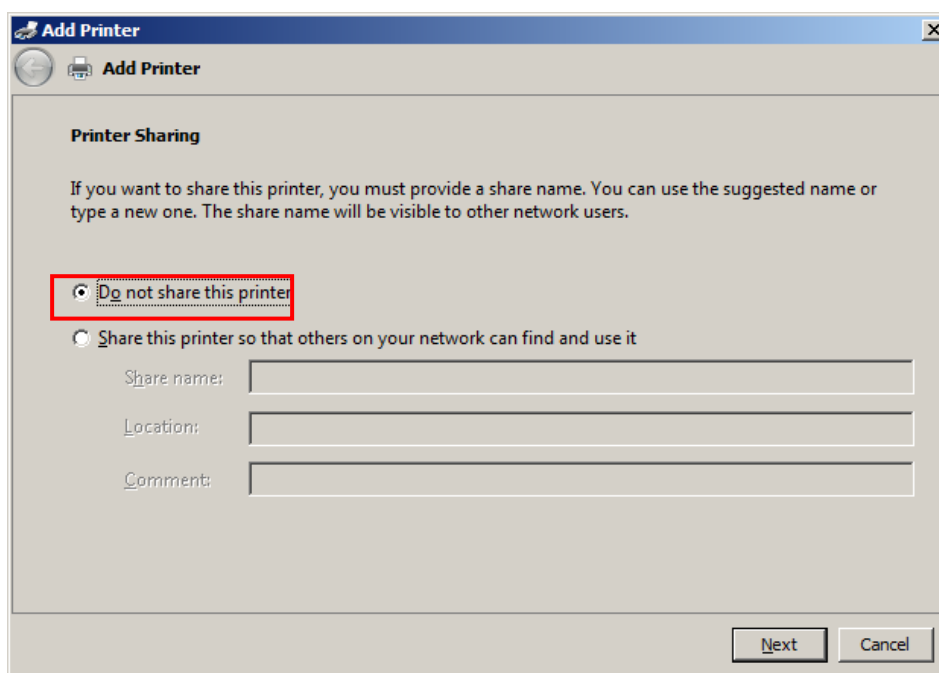

Figure 10.23 – Do not share this printer option
- 12) You may see a window that asks if you would like to share the printer. Do not share the printer! and select **Next**. See Figure 10.23.